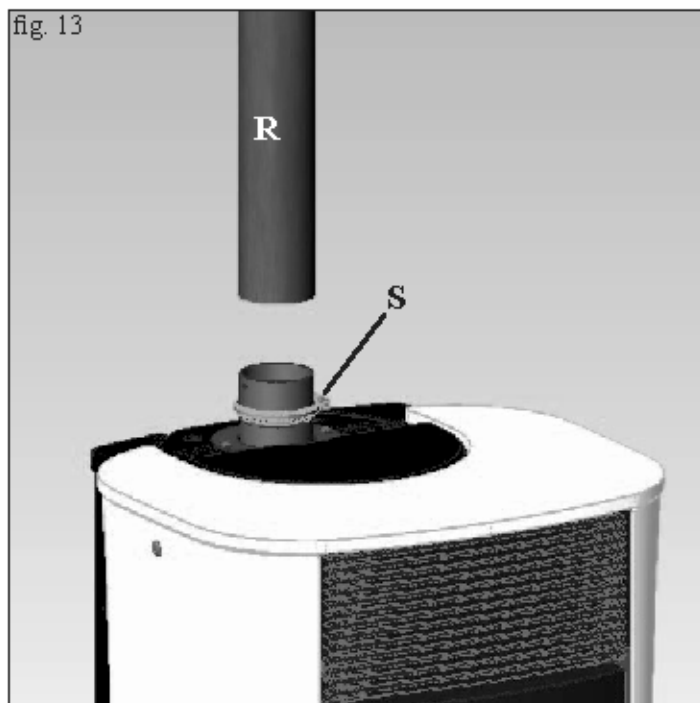

fig. 13
- Fit the flue pipe (R - fig. 13) (not supplied) over the outlet and fix it using the clamp (S - fig. 13) (not supplied).